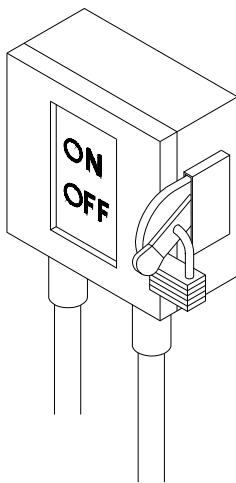

**Figure 3-1. Disconnect Switch For Electrical Supply**
### See Figure 3-1.
- Disconnect switch (not provided by STERIS) must be installed in electric supply line near bedding dispenser (see Figure 3-1). Disconnect switch must be capable of being locked in OFF position only.